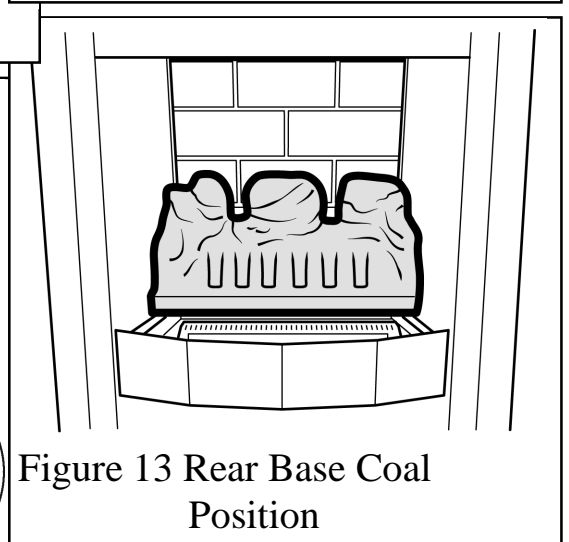

Figure 13 Rear Base Coal Position
3. Place the rear base coal in the firebox. It should rest on the ledges at the sides and back of the firebox and its rear face should touch the rear ceramic wall. See figure 13.